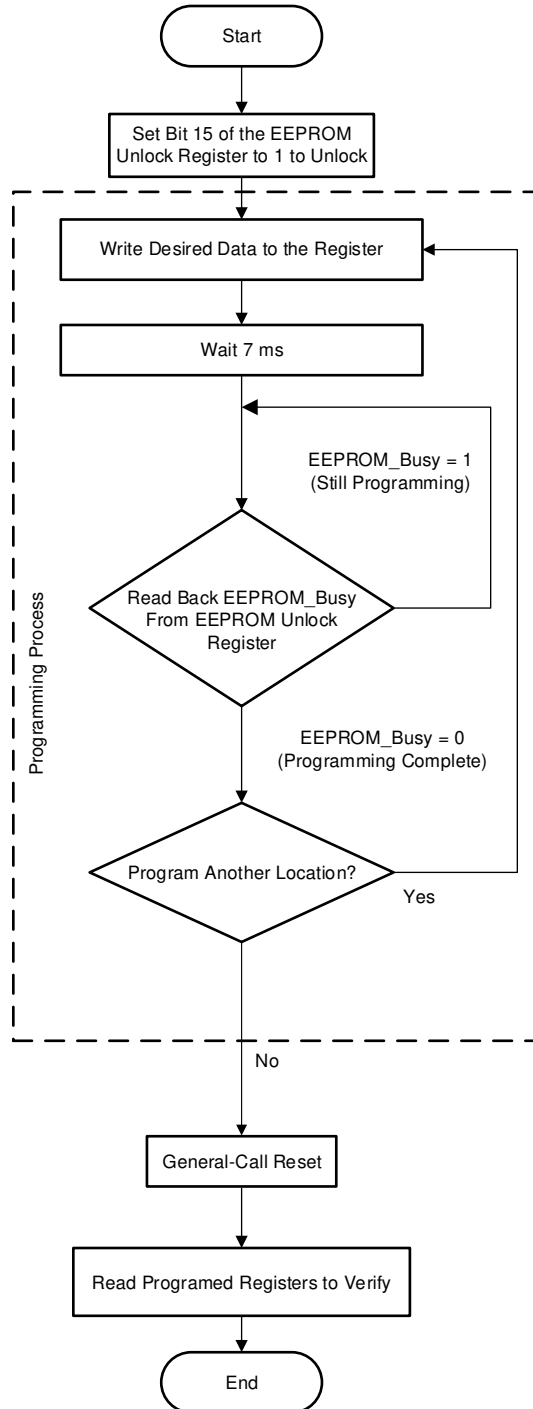

图 7-8. EEPROM Programming Sequence
**图 7-8** shows a flow chart describing the EEPROM programming sequence. To program the EEPROM, first unlock the EEPROM by setting the EUN bit in the EEPROM unlock register. After the EEPROM is unlocked, any subsequent I2C writes to the register map locations program a corresponding non-volatile memory location in the EEPROM. Programming a single location typically takes 7ms to complete and consumes 230μA. Do not perform any I2C writes until programming is complete. During programming, the EEPROM\_busy flag is set. Read this flag to monitor if the programming is complete. After programming the desired data, issue a general-call reset command to trigger a software reset. The programmed data from the EEPROM are then loaded to the corresponding register map locations as part of the reset sequence. This command also clears the EUN bit and automatically locks the EEPROM to prevent any further accidental programming. Avoid using the device to perform temperature conversions when the EEPROM is unlocked.